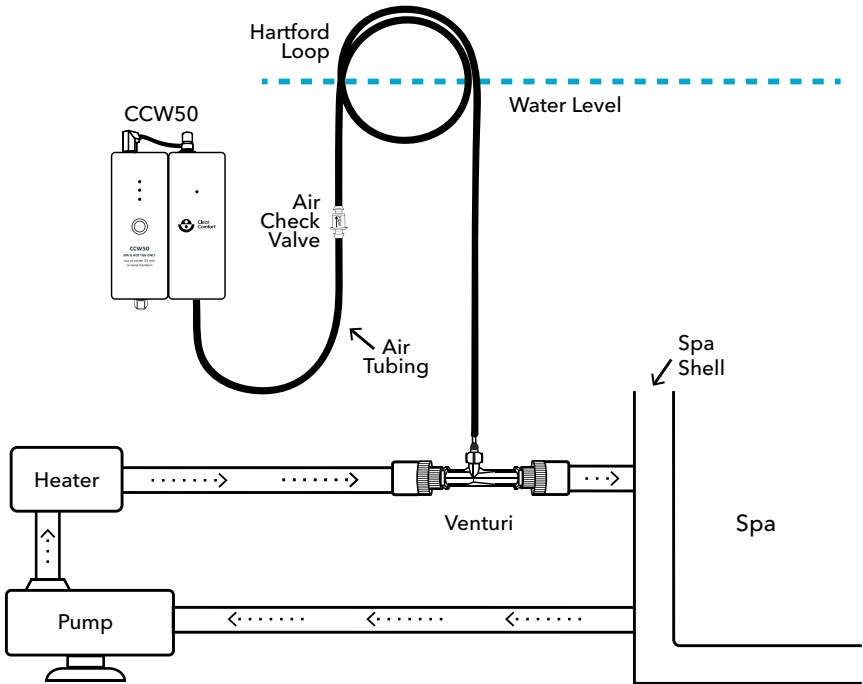

Figure 4: Full System Diagram
3. Install a Hartford loop using the blue flexelene tubing between the CCW50 system and the venturi connection. See Figure 4 on page 11.
1. Install plumbing according to Figure 4.